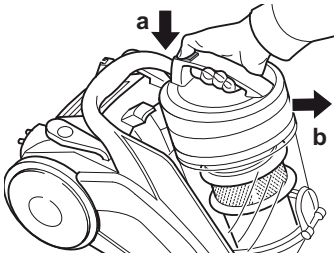

Fig. 21
2. Release the dust container by pressing down the release button as shown (Fig. 21/a).
3. Pull the dust container up and out of its holder (Fig. 21/B).